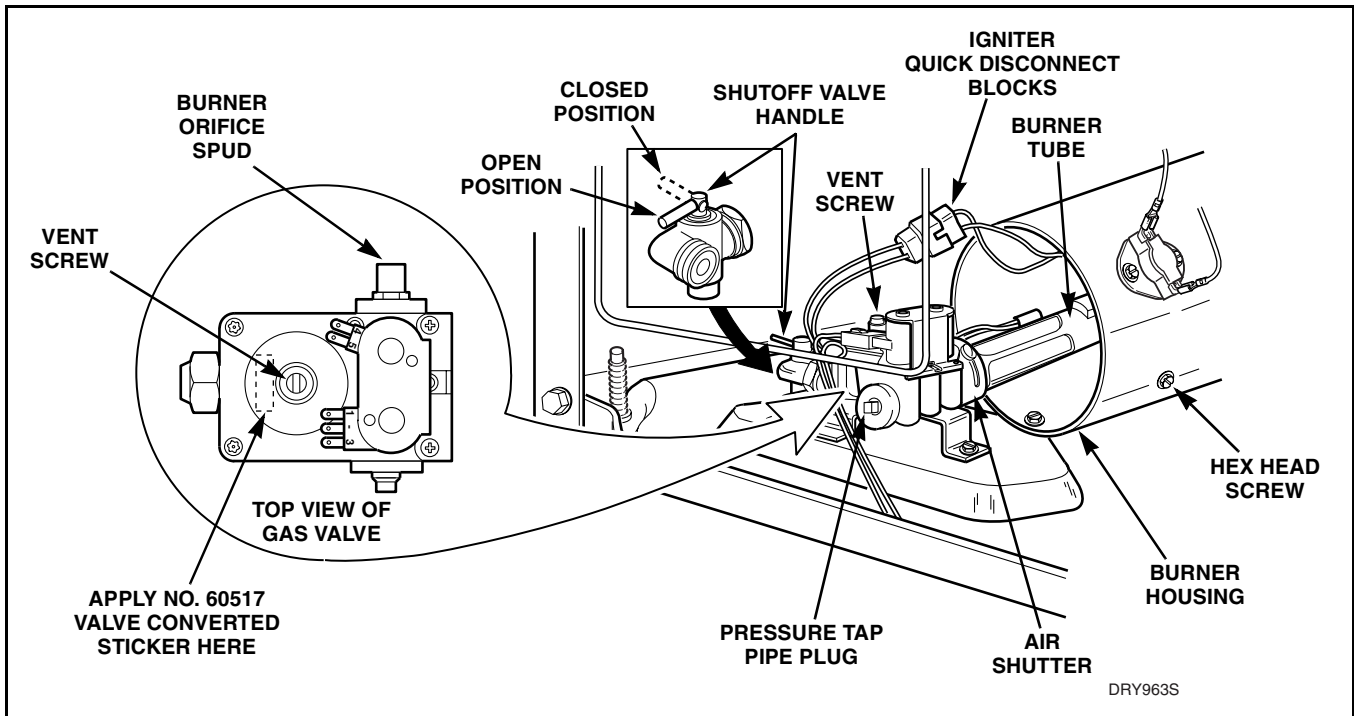

Figure 40
- Remove hex head screw holding burner tube and igniter in place. Refer to *Figure 40*.
- Install No. 60517 “Valve Converted to L.P. Gas” Sticker to top side of gas valve so it covers the gas valve part number. Refer to *Figure 40*.
- Disconnect igniter wires at quick disconnect blocks. Refer to *Figure 40*.
- k. Connect electrical service and turn the gas line shut-off valve handle to the open position. Refer to *Figure 40*.
- (1) Remove pressure tap pipe plug. Refer to *Figure 40*.
- (4) Stop dryer and remove “U” tube and reinstall the pressure tap pipe plug. Refer to *Figure 40*.